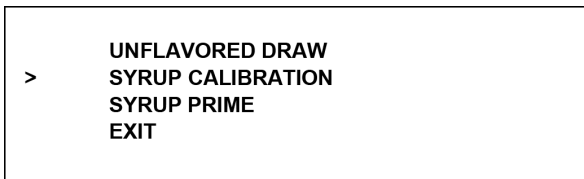

Figure-44
2. Press the Auto symbol  or the optional Flavor symbol  to scroll the arrow to SYRUP CALIBRATION. (See Figure-44.)